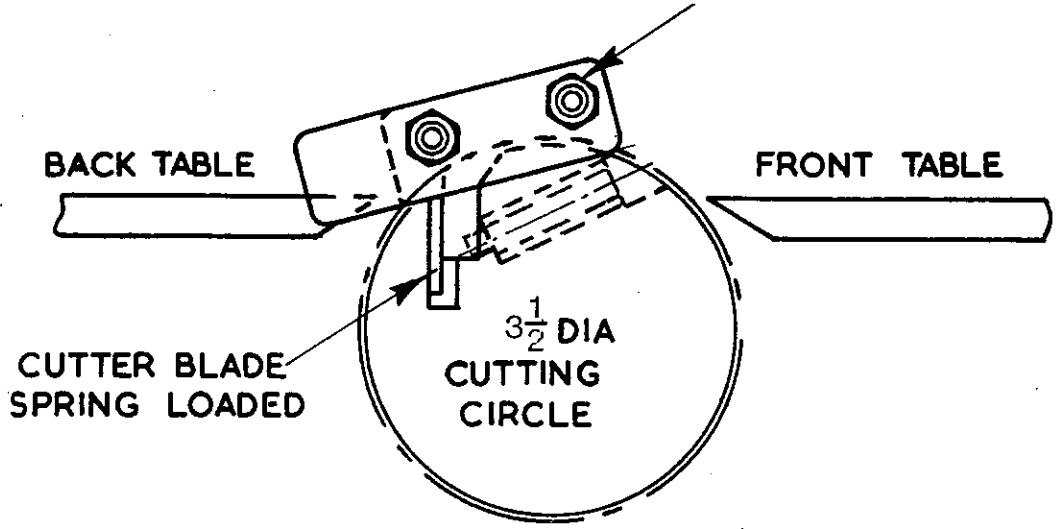

Fig 5
2. Turn the cutterblock to approximately the position shown in Fig. 5 and slacken the securing screws until the knife is just free of the cutterblock. Care should be taken when loosening the last screw as the knives are spring loaded. The knives can now be removed for grinding or replacing. When grinding it is most important that knives are ground dead straight and balanced in pairs or sets.
3. To re-set the knives, the cutterblock should be in approximately the position shown in Fig. 5. Place the knife in the slot making sure that all faces are clean and the clamping bar free from burrs. Press the knife into the cutterblock with the setting device in Fig. 5 until the four predominant pads rest on the outer surface of the cutterblock and the end stop plate is pressed against the rebate side of the back planing table. Position the knife so that its end butts against the stop plate so as to line up the tip of the knife with the edge of the back table.